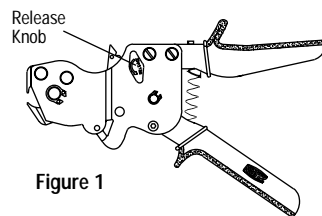
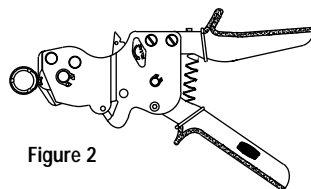

Figure 1
Figure 2
- 4) Open the QCRTQCRM tool by turning the Release Knob counterclockwise (Figure 1). Place the jaws completely over the QuickClamp pinch ear. With the tool at a 90° angle to the tube (Figure 2), close the tool by squeezing the handles together repeatedly until the LED light comes on. This may take 6-8 squeezes (Figure 3).